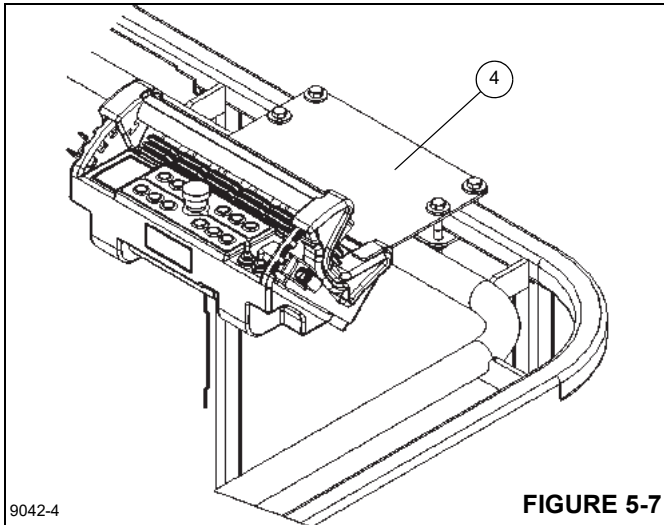

FIGURE 5-7
6. Secure remote control to platform control station mounting bracket (4).(See Figure 5-7).